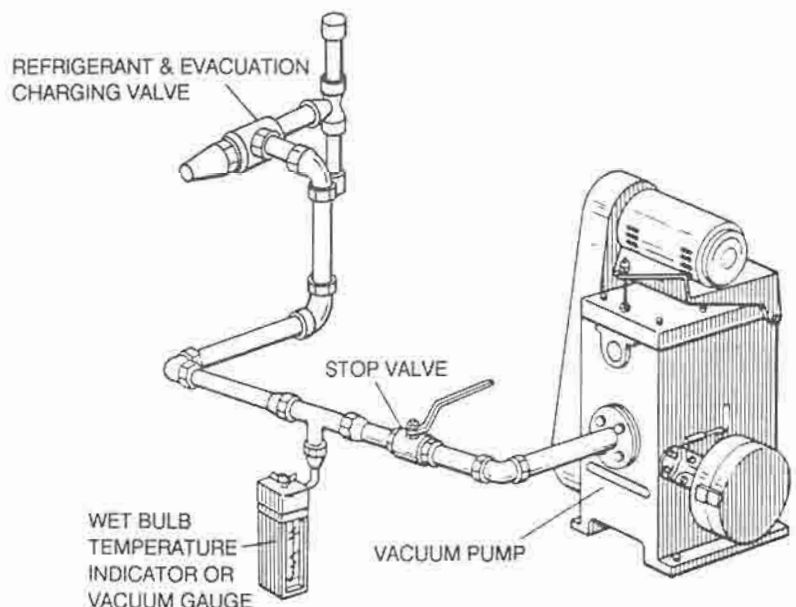

FIG. 15 – EVACUATION OF CODEPAK
1. Connect a high capacity vacuum pump, with indicator, to the system charging valve as shown in Fig. 15 and start the pump (See VACUUM DEHYDRATION).
5. Close the system charging valve and the stop valve between the vacuum indicator and the vacuum pump (See Fig. 15). Then disconnect the vacuum pump leaving the vacuum indicator in place.